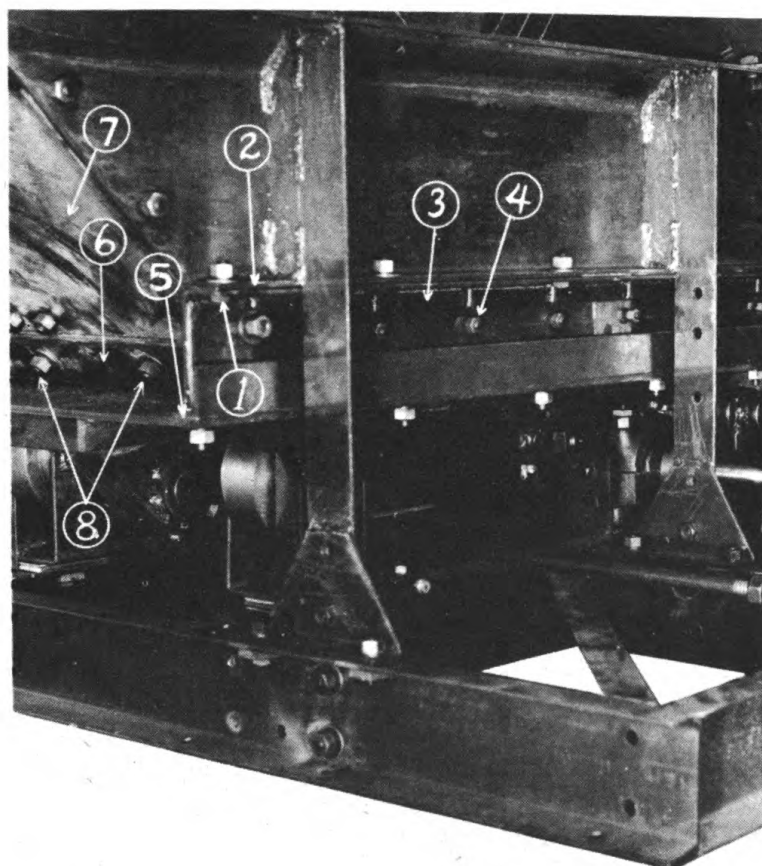

FIG. 34 - DRIVING SIDE OF RECIPROCATING FEEDER.
Leakage of aggregate around the base of the reciprocating feeder is prevented by adjustable skirt plates and rubber belt flashing. If leakage develops along the sides of the feeder, insert sufficient shims between skirt plate (1) Fig. 34 and feeder side plate (2) so that the clearance between the skirt angle and the feeder sliding plate (5) does not exceed $\frac{1}{8}$ of an inch. Then loosen bolts (4) and pry down on belt flashing (3) until flashing is flush against the sliding plate.